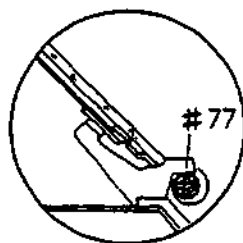

fig. 4-1
- ① can be adjusted by rotating Pin (#77). (fig. 4-1)